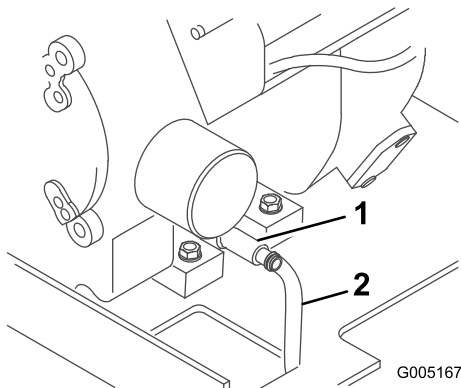

Figure 21
- Place one end of a hose on the drain valve and the other end in a pan (Figure 21).
- Open the drain valve by turning it counterclockwise, pulling out as you turn it (Figure 21).